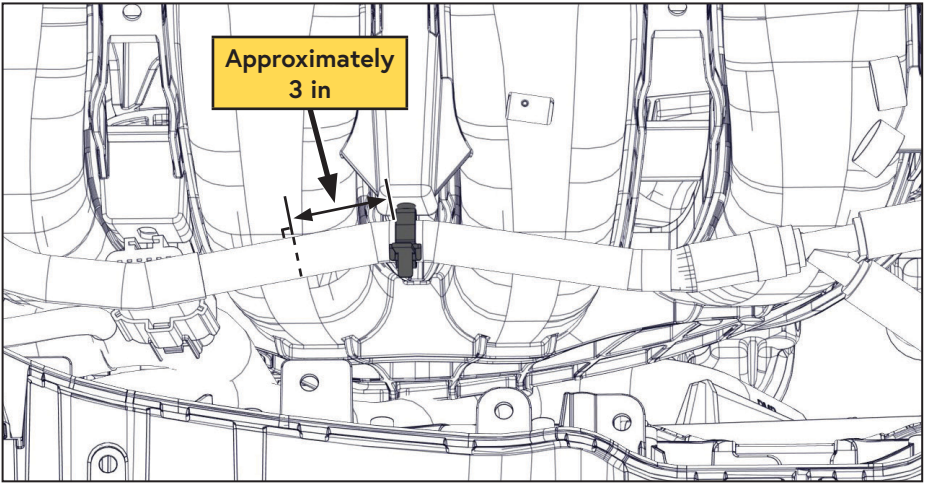

Figure 3 — Modify upper degas hose
- From the mount point in the middle of the intake manifold, measure approximately 3 in along the hose, toward where the degas bottle is mounted, and cut the hose (Figure 3).